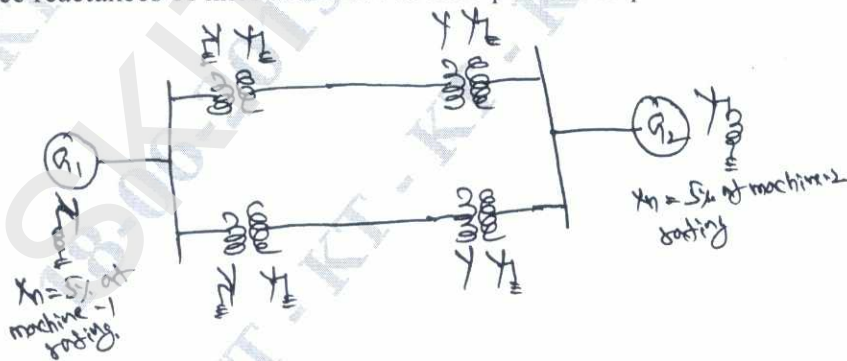

Fig.Q5(b)
- b. Draw the positive, negative and zero sequence network for the power system shown in Fig.Q5(b). Choose a base of 50 MVA, 220 KV in the 50Ω transmission lines and marks all reactances in PU. The ratings of the generator and transformers are: